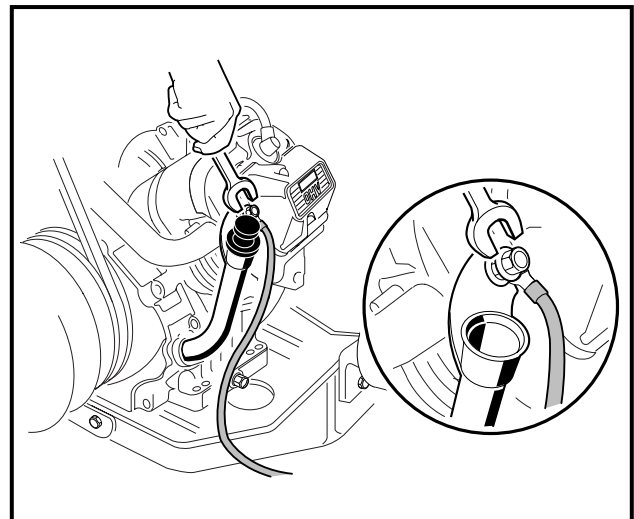

Figure 16-53 Engine Ground
28. Attach the ground wire to the mounting screw on the oil filler tube mounting bracket and tighten to 50 in-lb (5.7 N·m) (**Figure 16-53, Page 16-21**).